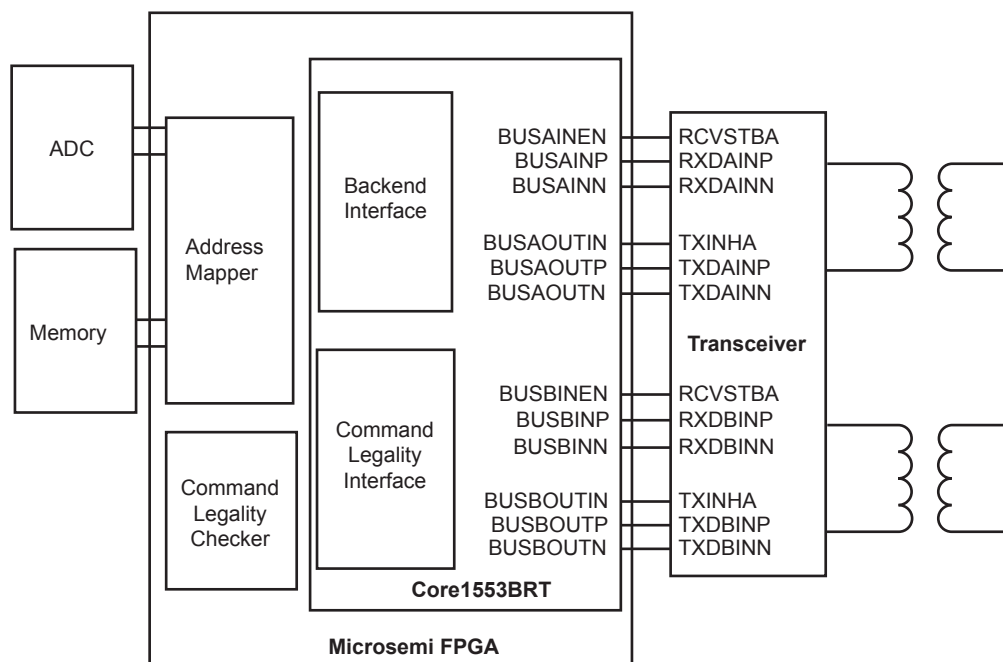
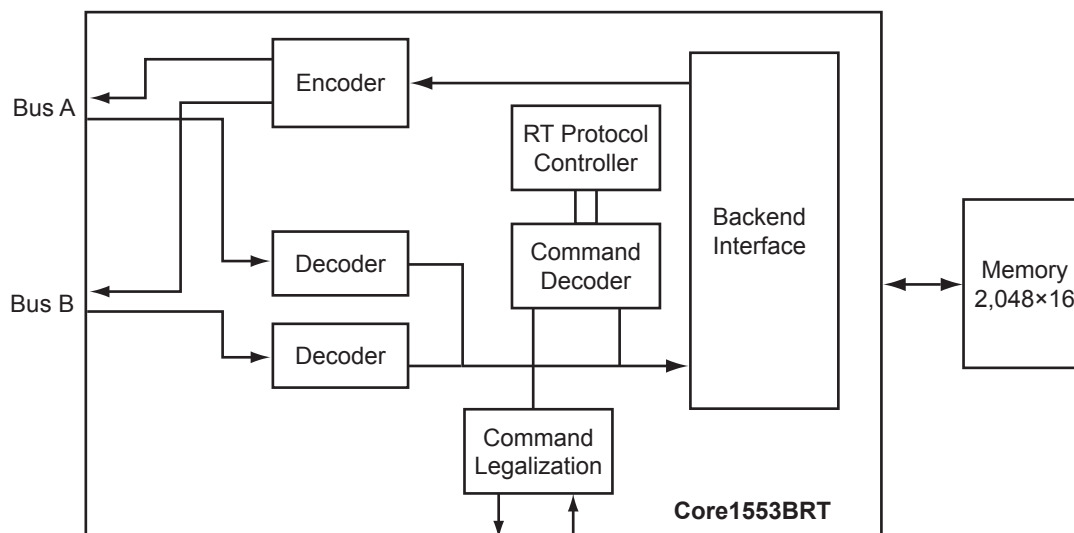

Figure 1 • Typical Core1553BRT System
Figure 2 • Core1553BRT RT Block Diagram
Core1553BRT provides a complete, dual-redundant MIL-STD-1553B remote terminal (RT), apart from the transceivers required to interface to the bus. A typical system implementation using Core1553BRT is shown in Figure 1 and Figure 2 on page 5.
The core consists of six main blocks: 1553B encoders, 1553B decoders, the backend interface, a command decoder, RT controller blocks, and a command legalization block (Figure 2).